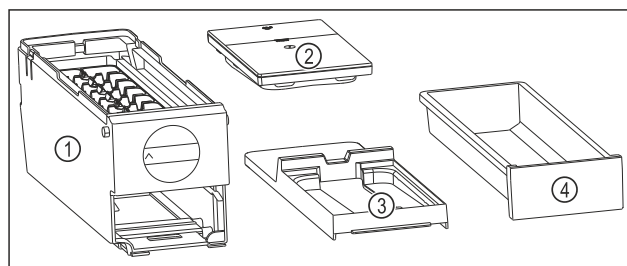

Fig. 107 Components of the EasyTwist-Ice
- EasyTwist-Ice is dismantled into four parts. (see Fig. 107)
- Only dismantle the EasyTwist-Ice into the components shown. (see Fig. 107)
- Clean the EasyTwist-Ice body Fig. 107 (1) as a whole.